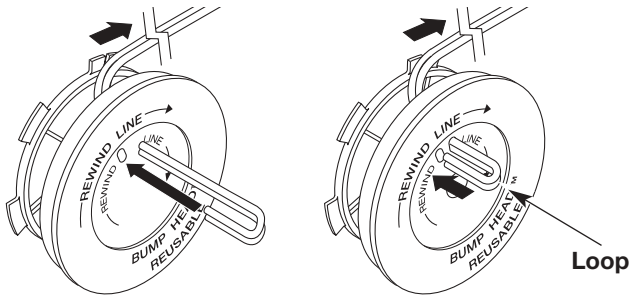

Fig. 18
9. Insert the end of the line into the open hole in the inner reel and pull the line tight to make the loop as small as possible (Fig. 18).